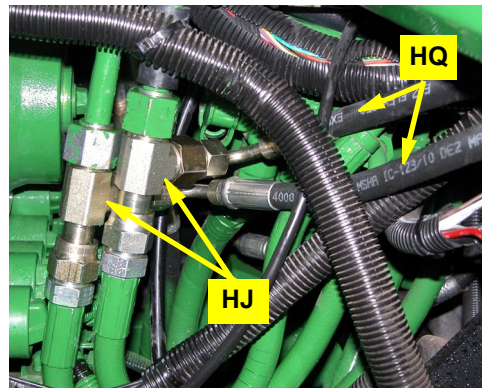

Figure 4c: Steering output hoses connected to run-tees
- c. Connect the steering output hoses **HQ** to the run-tees **HJ** (Figure 4c).